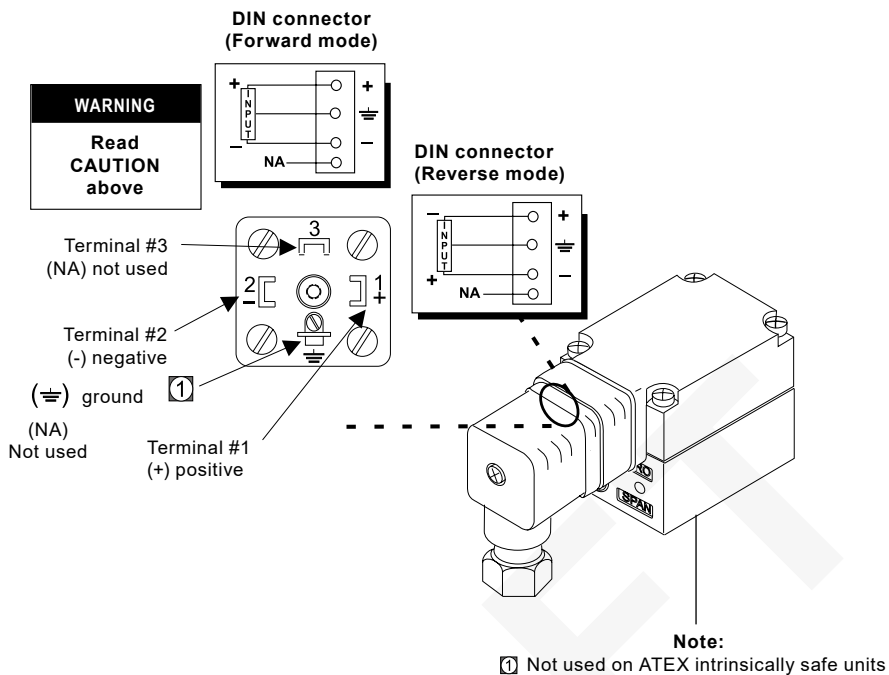

Fig. 6
Make connections as shown in Figure 6.
1. Connect the input signal to the convertor as shown in Fig. 6.
5. Connect the input signal to the convertor as shown in Fig. 6.